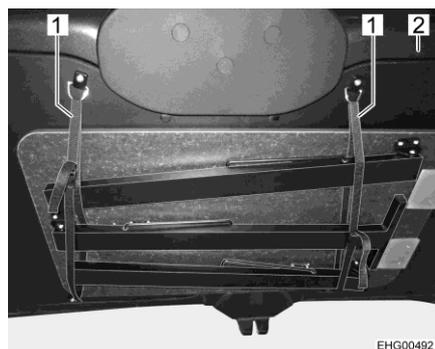

Fig. 14 Table (fastened to the rear flap) (C 500)
- Securely fasten the table to the rear flap (Fig. 14,2) with 2 straps (Fig. 14,1).